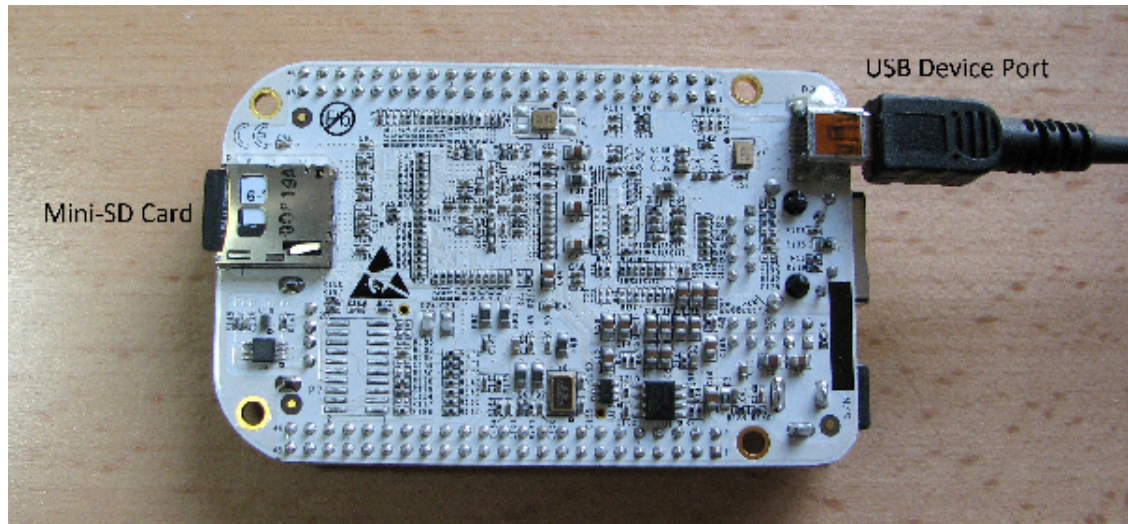

Figure-8: Powering up the Beaglebone
- To power up the beaglebone, connect it to the computer via the usb cable as shown in the Figure -8: